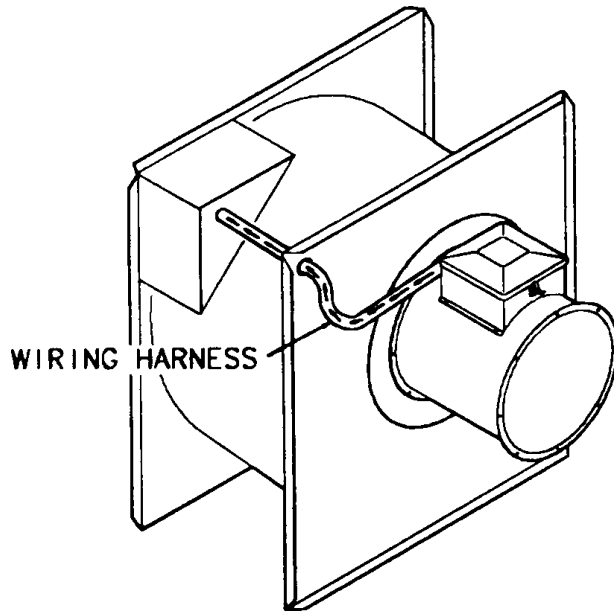

Figure 1: Illustration of electric heater wiring installation on a centrifugal fan unit.
1. Secure wiring harness assembly as shown in Figure 1.